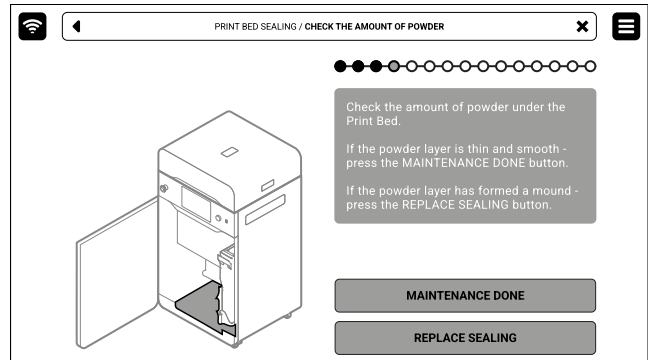

Fig. 13.28 Check the amount of powder under the Beds.
10. Check the amount of powder under the Print Bed. If the powder layer is thin and smooth – press the **MAINTENANCE DONE** button (fig. 13.28).
11. If the powder layer has formed a mound – press the **REPLACE SEALING** button (fig. 13.28).